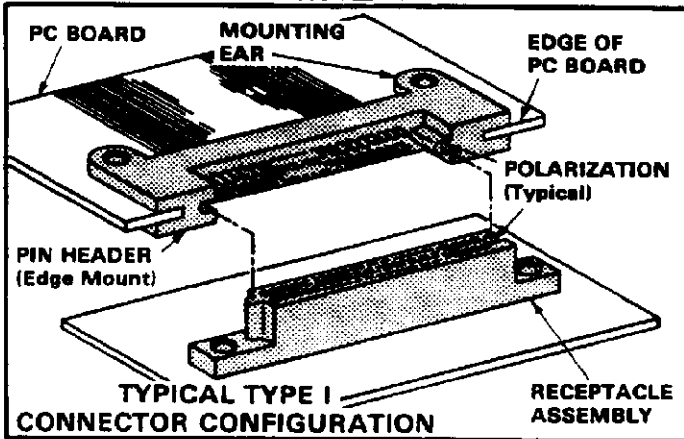

Fig. 1
This instruction sheet (IS) covers the installation, keying, and repair of AMP 750, 751, 1000, and 1001 Series In-Line Box Connectors. The basic connector configurations are shown in Figures 1 and 2.
Type I — a male connector with pre-tinned, preformed contacts for mounting on the edge of a pc board. This type, shown in Figure 1, is available in the 750 and 1000 Series.